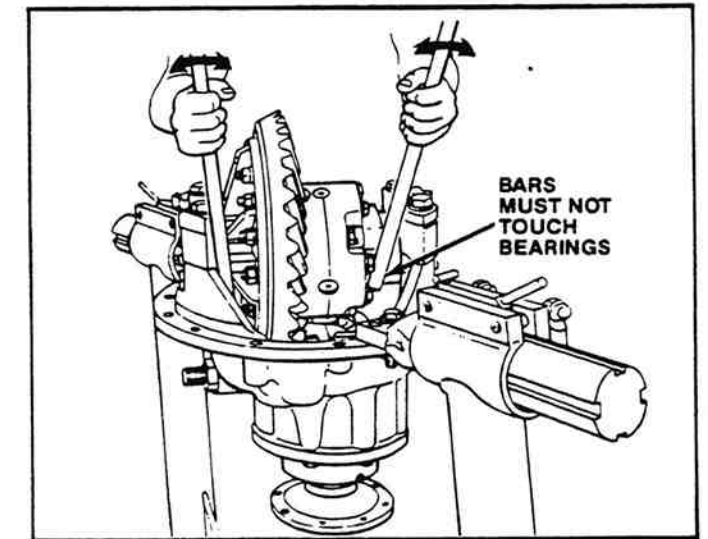

Figure 2-80. Placing Pry Bars (Alternate Locations).
b. Use two pry bars between the differential case or ring gear and the carrier at locations other than described in step *a*. The pry bars **must not** touch the differential bearings (Figure 2-80).